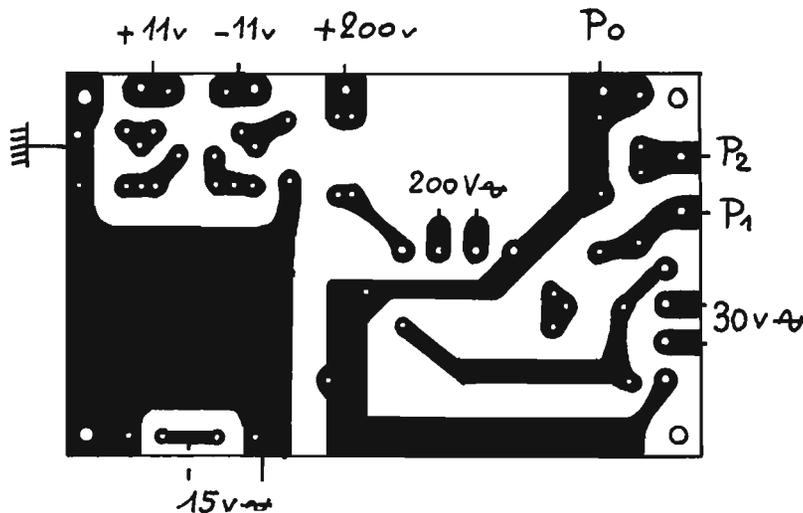

Fig. 38. - Plaquette E.
- Circuit E en simple face. (Alimentation) figure 38.